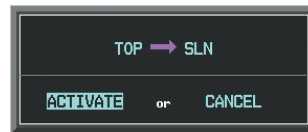

Figure 5-122 Confirm Active Leg
- c) Press the **ACT LEG** Softkey. The confirmation window is now displayed as in Figure 5-122. Note the TOP to ULNAZ leg is actually part of V4.